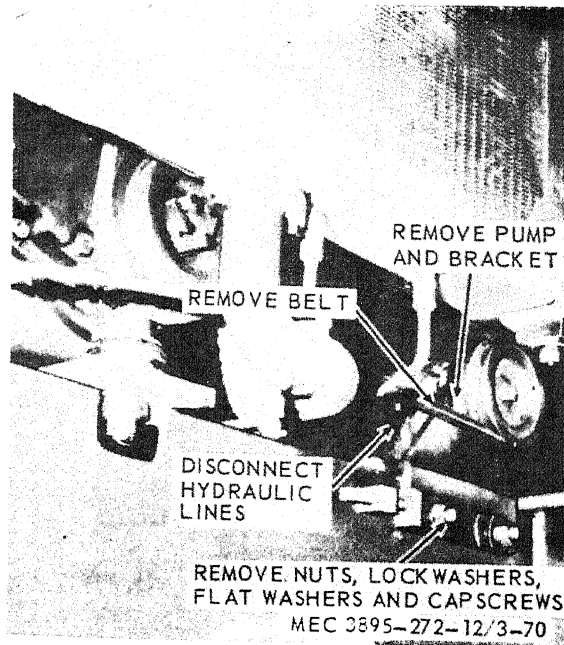

Figure 3-70. Hydraulic pump, removal and installation.
- a. *Removal.* Remove the hydraulic pump as instructed on Figure 3-70.
- (1) Clean all parts with an approved cleaning solvent.
- (2) Inspect the pump for damage and proper operation. Replace a damaged or inoperative pump.
c. Installation. Install the hydraulic pump in reverse of the instructions on figure 3-70.